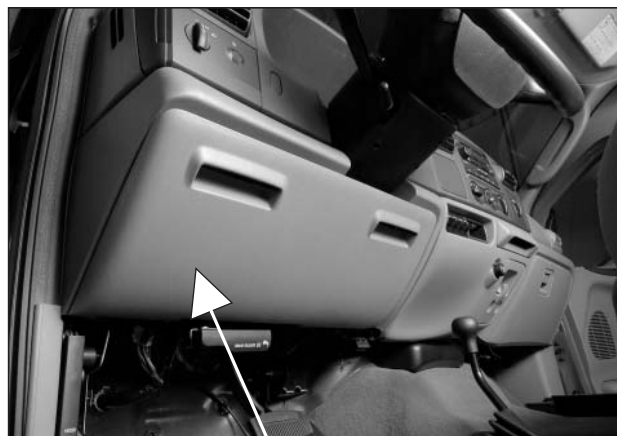

Figure 25
- b. All Others - Ford wiring is located behind the customer access panel located directly under the steering column (**Fig. 25**).